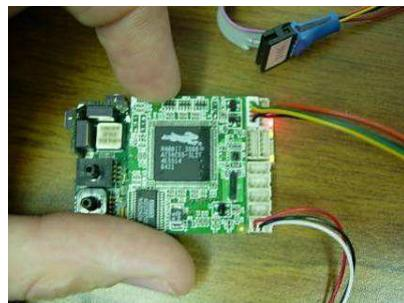

Figure 7-13 Connecting serial cable to the modem port on the Autopilot
2. The next step requires the use of the autopilot programming cable with the 5 wire programming connector. This is provided by Procerus. Plug the 5 pin header on the programming cable into the autopilot modem port (see Figure 7-13).